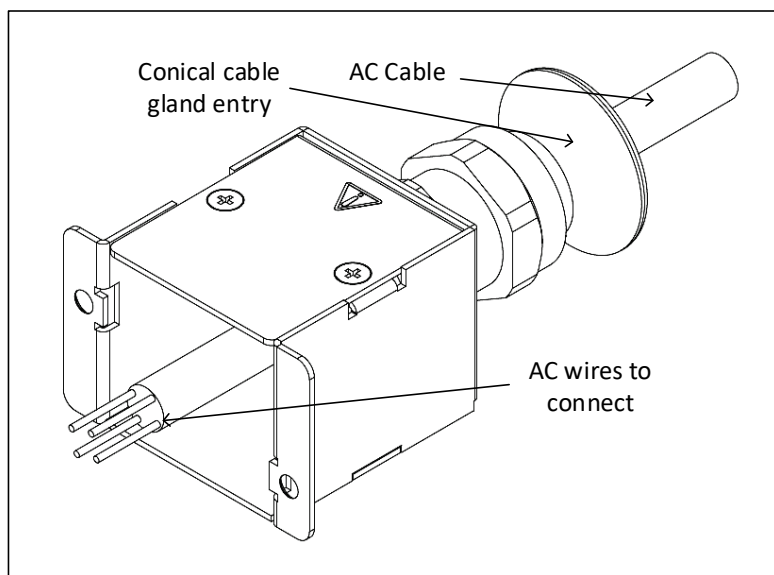

Figure 4-5: Stripped Wires Inserted Through
5. Insert the AC cable through the conic cable gland entry and the strain relief bracket as shown in Figure 4-5 (4-wires are shown, it applies to 1-Phase, 3-wires as well).